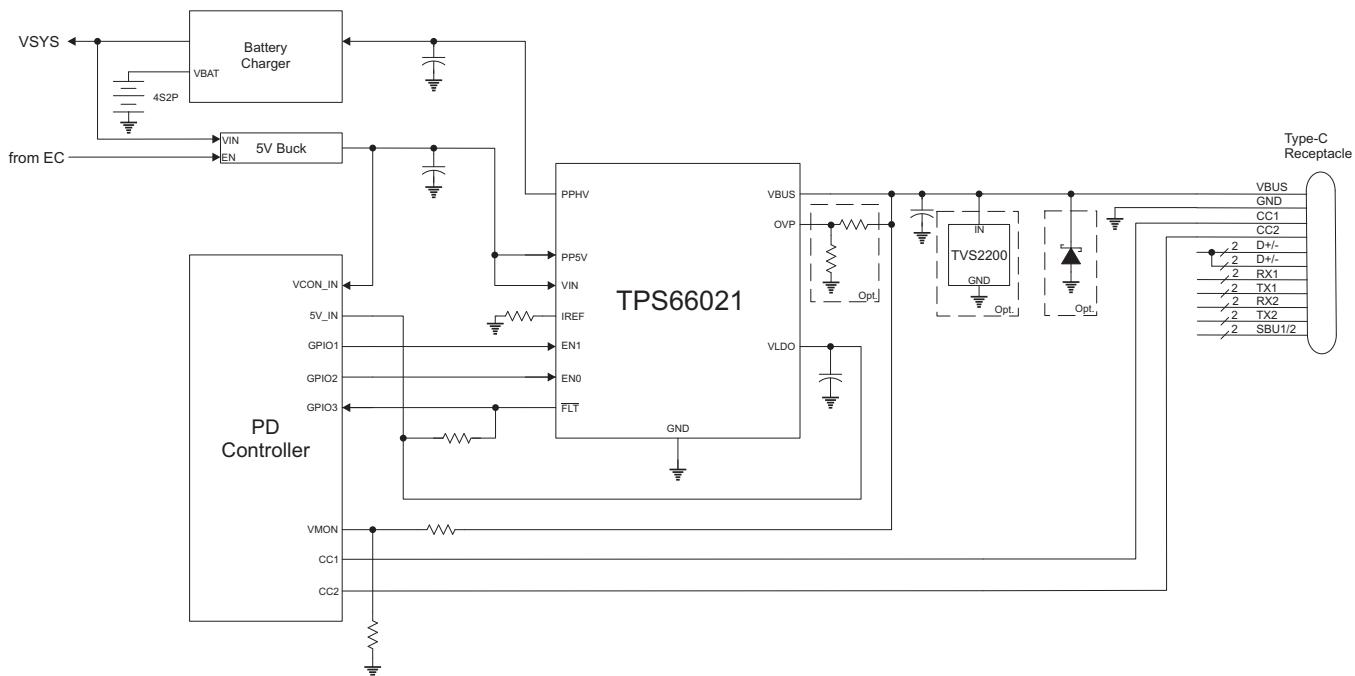
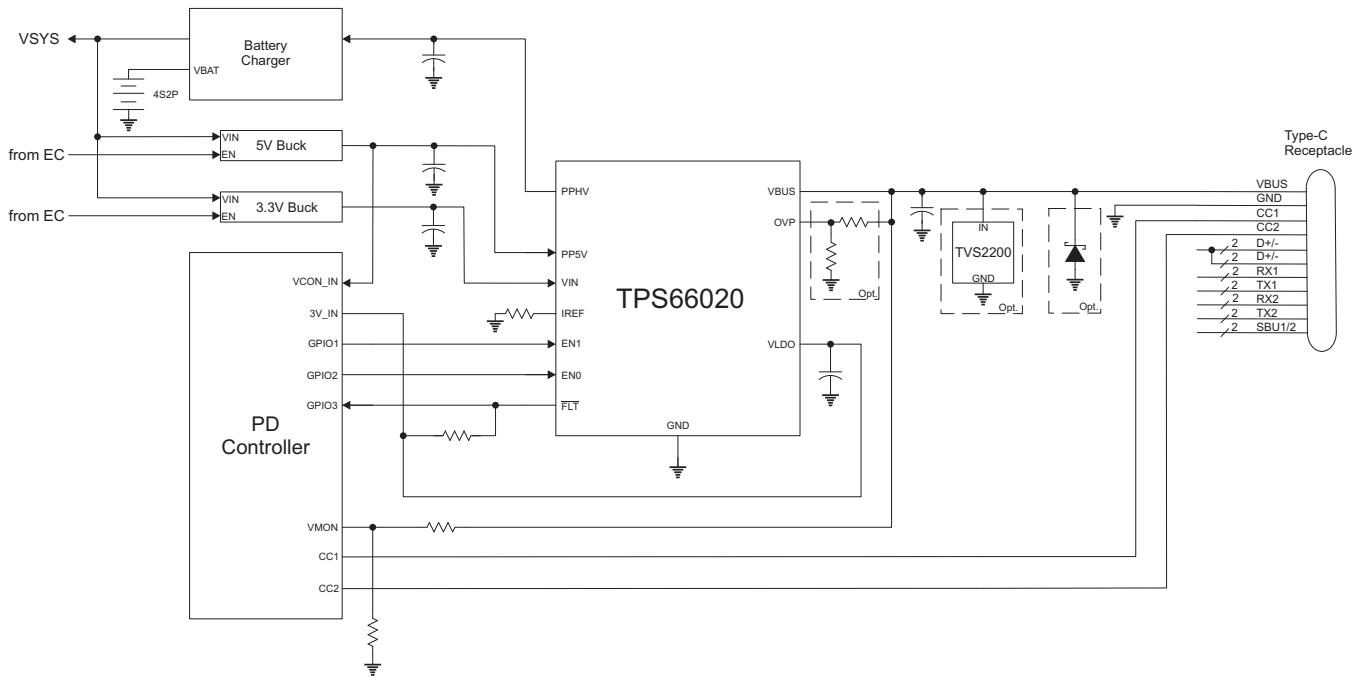

图 28. Single Port Type-C PD Port Using a Single 5-V Supply
图 29. Single Port Type-C PD Port Using a 3.3-V Supply
图 28 shows a USB Type-C single port design using a Power Delivery (PD) controller that supports 5-V operation. For this system, a single 5-V supply is used to supply power to the PP5V and VIN supplies of the TPS66021, as well as, the connector power, VCONN. The TPS66021 supplies power to the 5-V supply of the PD controller via its VLDO output which is sourced either from the integrated 5-V VBUS LDO for dead battery operation or from VIN once the dead battery condition ends.
Similarly, 图 29 shows a USB Type-C single port design using a PD controller that only supports 3.3-V operation. In this case, a separate 3.3-V supply in the system is used to supply power to the TPS66020. The TPS66020 supplies power to the 3.3-V supply of the PD controller via its VLDO output which is sourced either from the integrated 3.3-V VBUS LDO for dead battery operation or from VIN once the dead battery condition ends.
The PPHV power path is a Sink. The capacitance on the PPHV shown in Figure 29 represents capacitance of the charger sub-system. In a typical application, this capacitance can be in the range of 47 uF up to 100 uF, far exceeding the 1-uF minimum specification for the TPS6602x, so no external capacitance is required to meet this requirement in most cases. As per the PD Specification, the total capacitance on VBUS should be maximum 10 uF at connection.
The TPS6602x integrates a high-voltage VBUS LDO that can be used to supply power to a PD Controller and other supporting circuitry when only VBUS power is available, such as in a dead battery condition. As shown in 图 29, the TPS66020 VLDO output supplies power to the PD Controller's 3V\_IN supply. Similarly, 图 28 shows the TPS66021 VLDO output supplies power to the PD Controller's 5V\_IN supply. During a dead battery condition, the PD Controller presents its Type-C RPD pull-downs on the CC1 and CC2 lines. Upon connection to a Type-C/PD Source, 5 V is provided to VBUS from the Source partner which powers the TPS6602x. The VBUS LDO is enabled and provides power to the PD Controller. Once powered, the PD Controller can decide to enable the TPS6602x PPHV Sink path by asserting EN0 high and use the 5-V VBUS to charge the battery or it may choose to negotiate a higher voltage contract first. Either way, once the contract is negotiated, the PD Controller will enable the PPHV Sink path and charge the system. Once the system is sufficiently charged, the VIN terminal will rise and will exceed the VIN UVLO threshold. If VIN remains above the UVLO threshold for  $t_{VIN\_STABLE}$ , VLDO will be supplied from VIN and the VBUS LDO will be disabled.